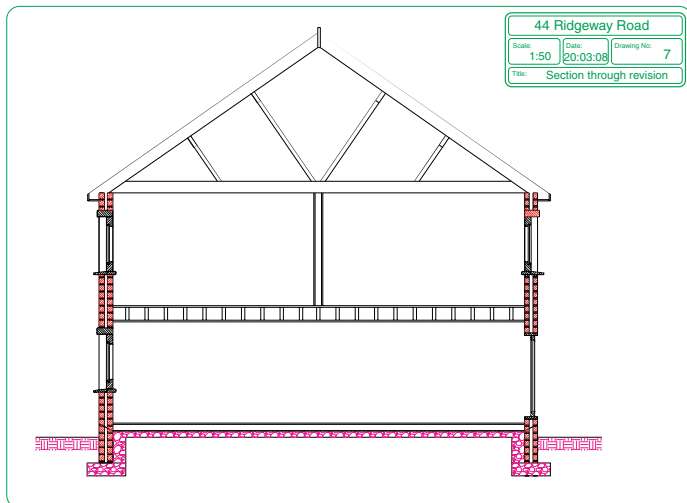

Fig. 12.7 A section through the proposed extension
7. A sectional view through the proposed extension, drawn to a scale of 1:50 (Fig. 12.7).